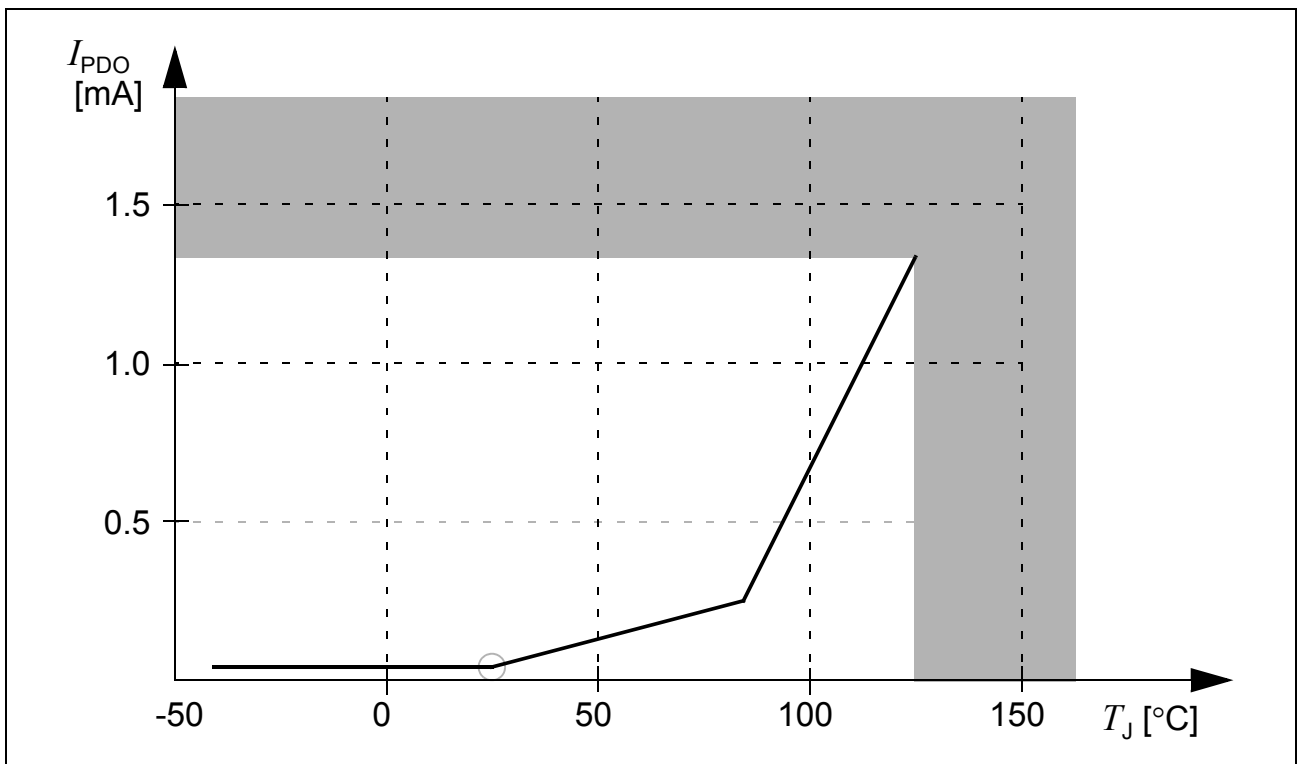

Figure 12 Sleep and Power Down Leakage Supply Current as a Function of Temperature
- 5) This parameter is determined mainly by the transistor leakage currents. This current heavily depends on the junction temperature (see **Figure 12**). The junction temperature T_J is the same as the ambient temperature T_A if no current flows through the port output drivers. Otherwise, the resulting temperature difference must be taken into account.